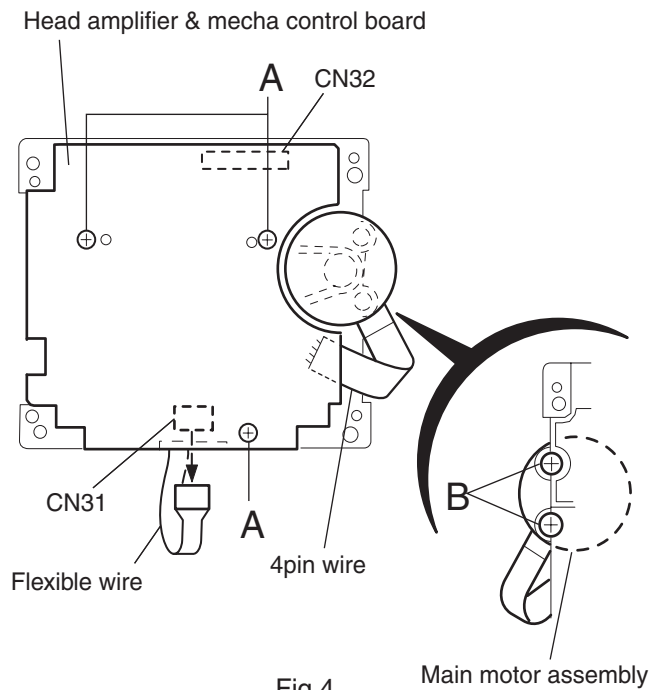

Fig.4
■ Removing the head amplifier & mechanism control board (See Fig.4)
■ Removing the main motor (See Fig.4~7)